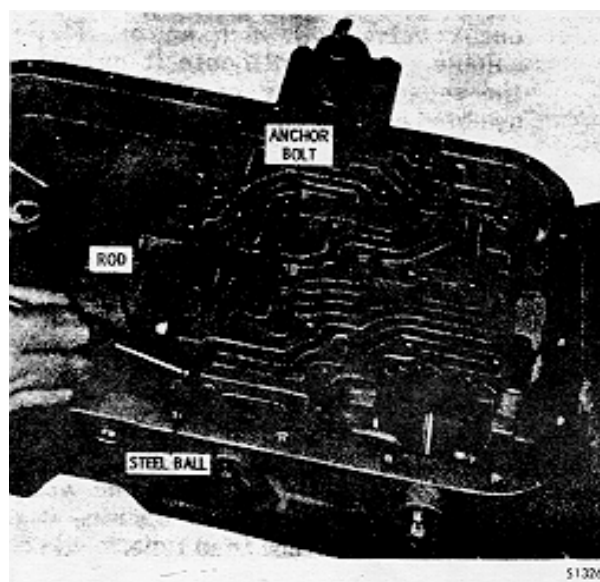

Fig. 7-30. Installing governor check oil seal ball
(1) Position the transmission housing bottom side upward.
(2) Tighten the center support anchor bolt to 39-46 lb ft (53-62 N m) (Fig. 7-30).
(3) Install the governor check valve ball into the channel in the transmission housing (Fig. 7-30).